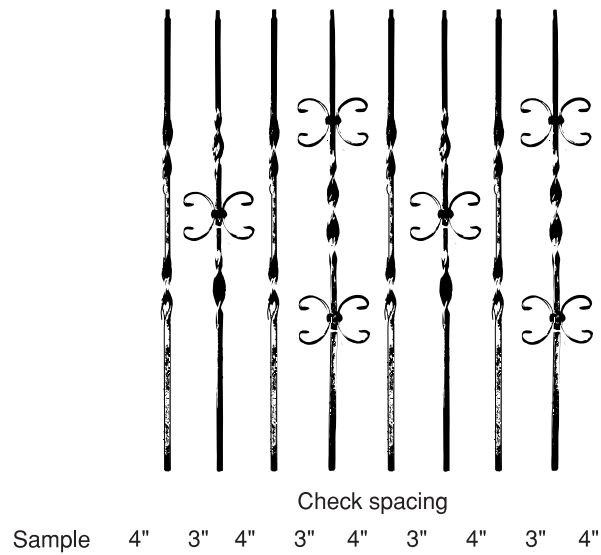

Fig. 7-1
1. Lay the balusters on the floor or against the wall in the desired pattern. Please note Fig. 7-1 here.